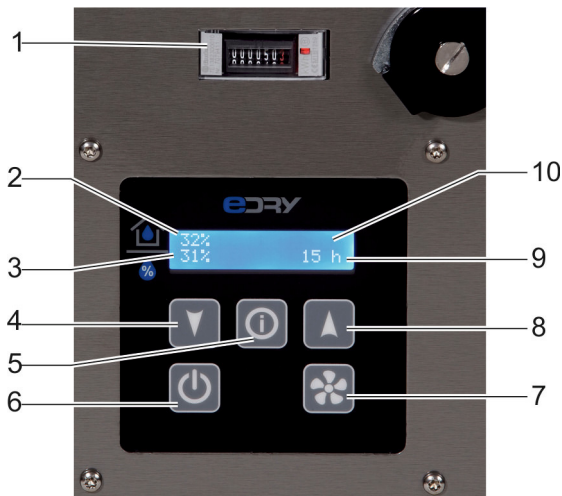

Fig. 9: Control panel AD 5 and AD 6 series
3. Press the on / off switch (Fig 9, Pos. 5) on the control panel. If the dehumidifier is properly connected and the existing humidity is higher than the set humidity value, the dehumidifier will start to operate. The final values of the humidistat, language and fan speed can be optionally taken.
1. Turn off the dehumidifier at the on / off switch (Page 16, Fig. 9, Pos. 5).